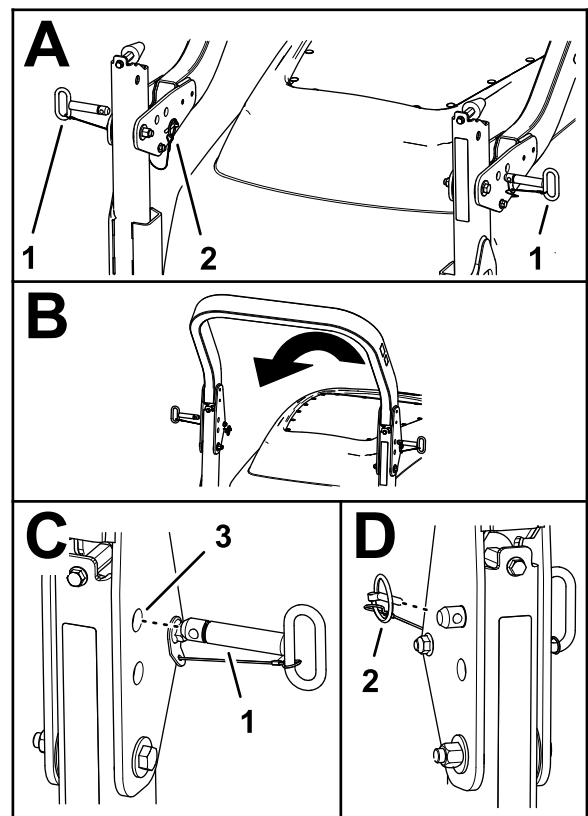

Figure 54
- Remove the lynch pins that secure the roll-bar pins at each side of the roll bar (Figure 54).